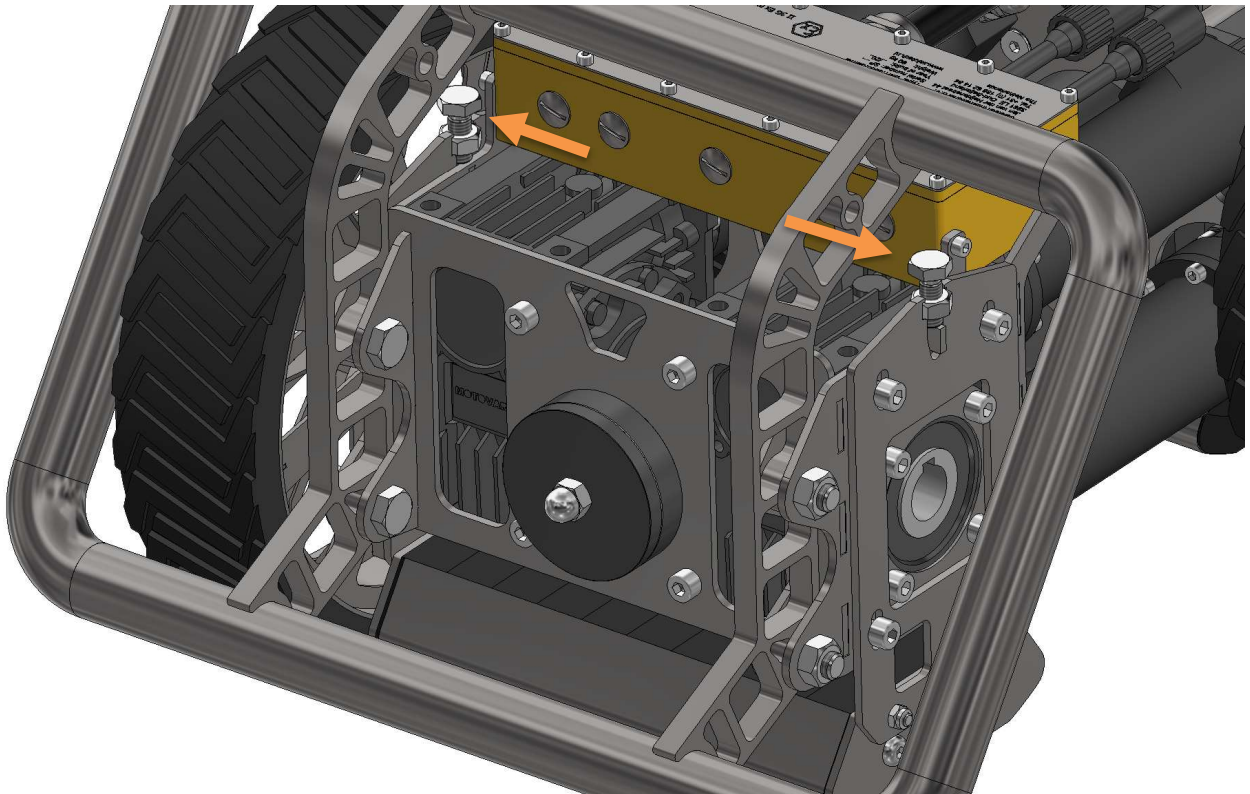

Figure 35 Height adjustment magnets
3. To adjust the magnet, use the indicated bolts Figure 35. Clockwise to move the magnet away from the wall. Counter clockwise to move the magnets to the wall.
The stroke of the swing arm can be adjusted using the sensors. You can see how to adjust these sensors in Figure 35. Make sure that the distance between sensor and arm is between 2 and 4 mm this is shown in Figure 36.